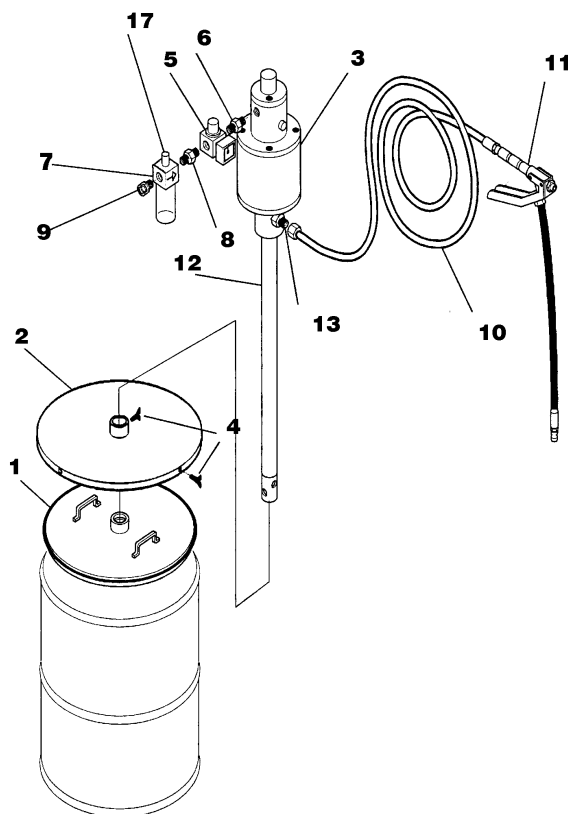

Fig.2.
4. MAINTENANCE: (Refer to Figure 2)
Check the Oil level in the Lubricator. Top up with appropriate oil SAE 20-40. Check and clean (or replace) the filter (12) located at bottom of the pump by removing the circlip (13) as shown in figure 2. Ensure that pipes and hoses forming part of the system have not been damaged. Damaged pipes can be a potential hazard.